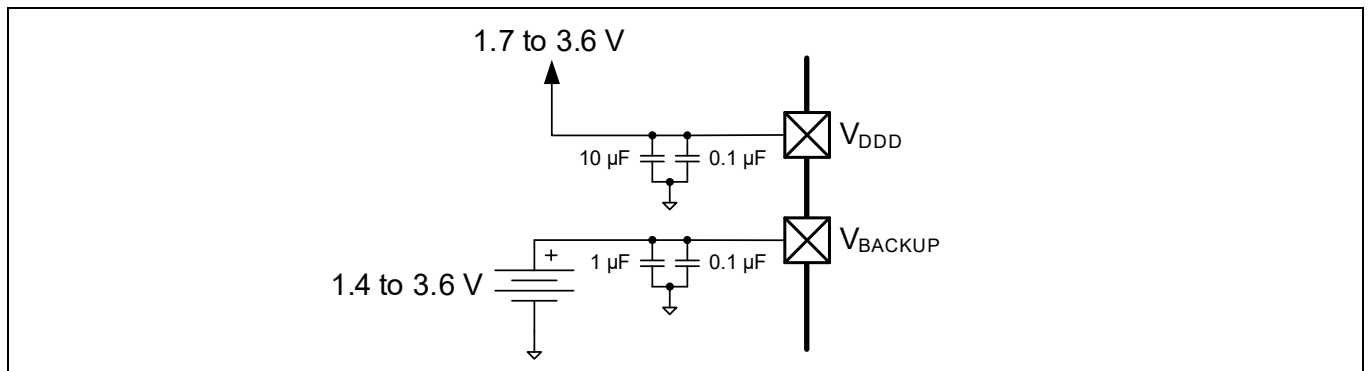

Figure 15 Separate battery connection to V_{BACKUP}
- V_{BACKUP} : the supply for the backup domain, which includes the 32-kHz WCO and the RTC. It can be a separate supply as low as 1.4 V, for battery or supercapacitor backup, as Figure 15 shows. Otherwise it is connected to V_{DDD} . It powers I/O port 0.